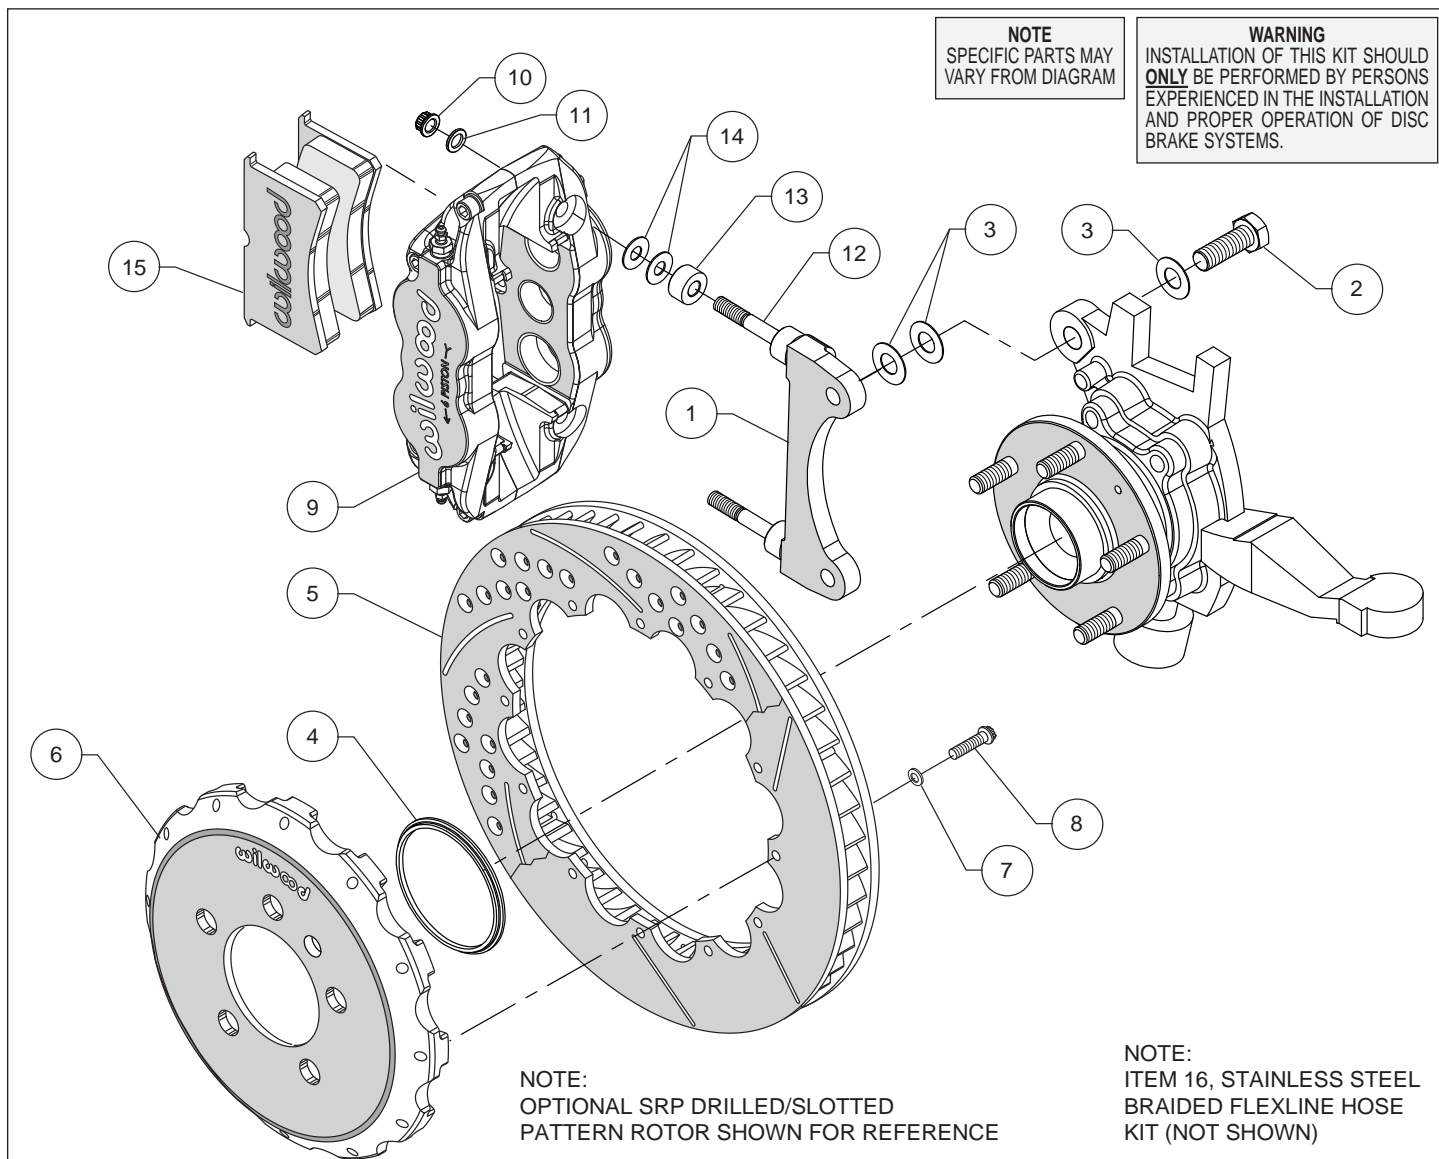
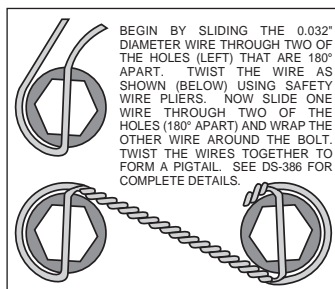

Figure 1. Typical Installation Configuration
Figure 3. Safety Wire Diagram
Assembly Instructions (numbers in parenthesis refer to the parts list and Figure 1 on the preceding pages):
- The caliper mount bracket (1) should initially be installed with clean, dry threads on the mounting bolts. Orient the bracket as shown in Figure 1 and Photo 1, and install using shim washers (3) and bolts (2). Initially place two shims (3) on each bolt between the bracket and upright, Figure 1. Temporarily tighten the mounting bolts. **NOTE:** *The bracket must fit squarely against the mount bosses on the upright.* Inspect for interference from casting irregularities, machining ridges, burrs, etc. Later, after the caliper alignment has been checked, the mount bolts will be secured using red *Loctite*® 271.
- Orient the rotor (5) and the hat (6) as shown in Figure 1 and Photo 2. Attach rotor to hat using bolts (8) and washers (7). Using an alternating sequence, apply red *Loctite*® 271 to the threads, and torque to 155 in-lbs. For an added measure of security, the bolts may be safety wired using standard 0.032 inch diameter stainless steel safety wire as shown in Figure 3.
- Slide the rotor registration adapter (4) onto the axle register on the axle hub with the smaller O.D. facing outward, Photo 3. Slide the hat/rotor assembly onto the axle hub. **NOTE:** *The hat must fit flush against the axle hub flange or excessive rotor run out may result.* Install three lug nuts (finger tight) to keep the hat/rotor assembly in place while continuing with the installation.
- NOTE:** *This kit contains distinct right and left hand calipers that must be mounted in a specific direction, as described below.* Lubricate the caliper mounting studs (12) with lightweight oil. Initially place two .035" thick shims (14) and spacer (13) on each stud as shown in Figure 1 and Photo 4. Mount the caliper (9) onto the bracket (1) using lock nuts (10) and washers (11), Figure 1. Ensure that the caliper is mounted so that the largest pistons are at the rotor exit end of the caliper, in relation to the direction of rotor rotation. Temporarily tighten the lock nuts and view the rotor through the top opening of the caliper. The rotor should be centered in the caliper, Photo 5. If not, adjust by adding or subtracting shims (3) between the bracket and the upright. Always use the same amount of shims on each of the two mounting bolts. Once the caliper alignment is correct, remove the bracket mounting bolts one at a time, apply red *Loctite*® 271 to the threads, and torque to 77 ft-lb.